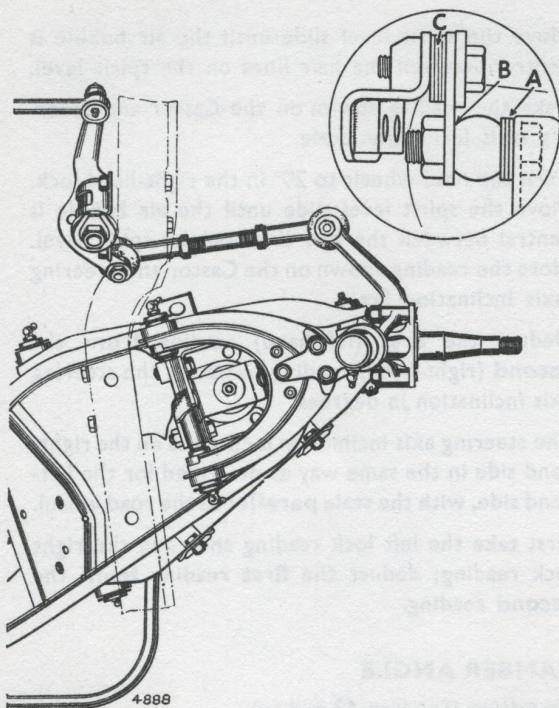

Fig. 13. Plan view of front suspension showing camber shim positions
To adjust (See Figs. 13 and 14)
To increase the camber angle move the required number of shims from position (A) to position (B) (See Fig. 13).